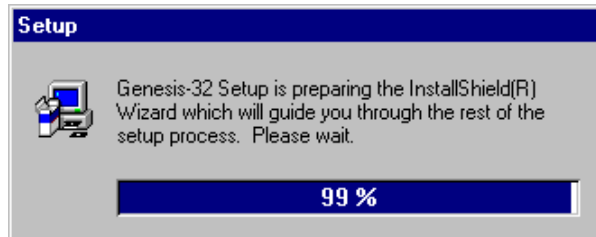

Figure 2.2
1. The ICONICS Setup introductory screen displays briefly as shown in **Figure 2.2** while installation is initializing.